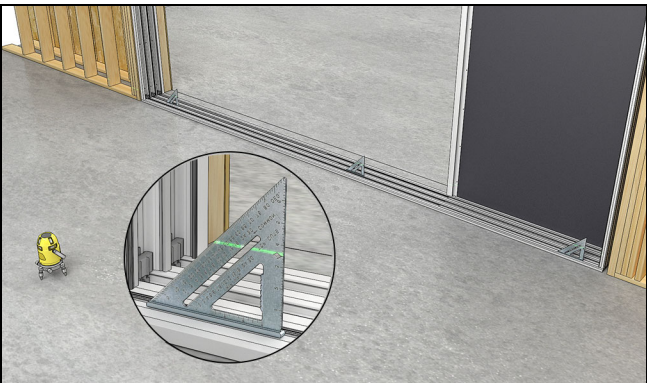

Figure 57
3. Verify that the sill is flat and level. Make adjustments as necessary. See Figure 57.